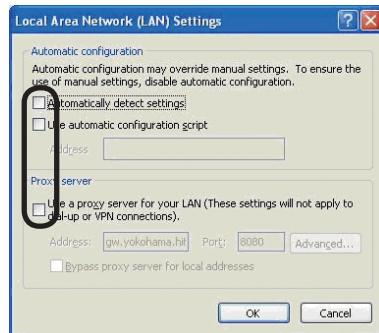

Fig. 2.3.3.c “Local Area Network (LAN) Settings” window
- 3) Uncheck all boxes in “Local Area Network (LAN) Settings” window. (Fig. 2.3.3.c)